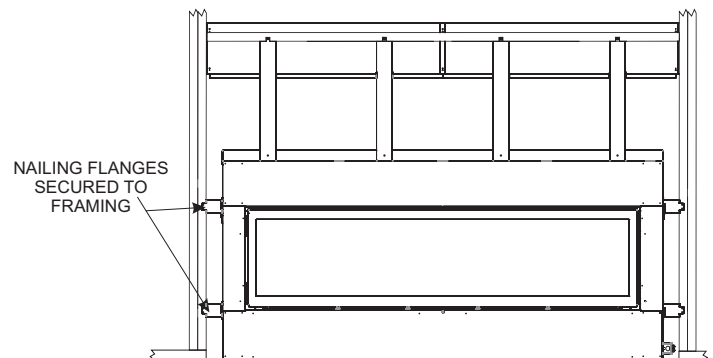

Figure 28
NOTICE: For finishing to top of fireplace, refer to **Figures 28 and 30**.
3. Secure fireplace to framing with nailing flanges. Preset depth to suit facing material (flush or 1/2 inch set back depths). **See Figure 28.**